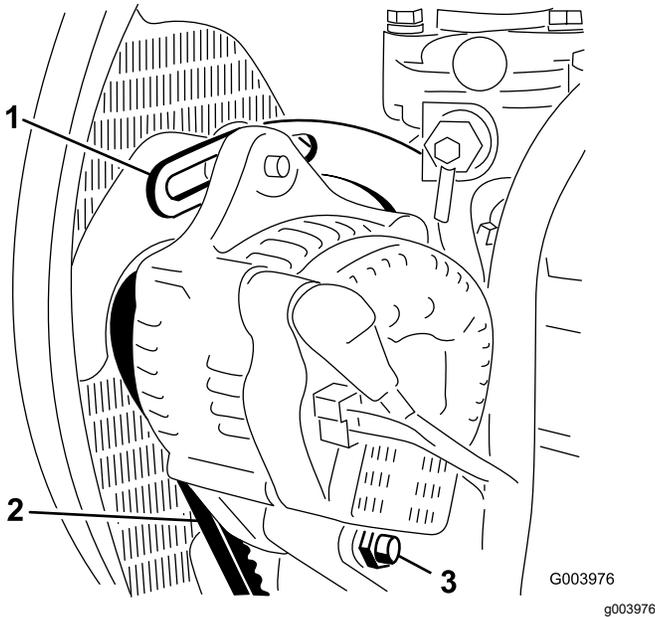

Figure 74
2. Check the tension of the alternator belt by pressing it (Figure 74) midway between the alternator and the crankshaft pulleys with 10 kg (22 lb) of force.
3. Loosen the bolt securing the brace to the engine (Figure 74), the bolt securing the alternator to the brace and the pivot bolt.